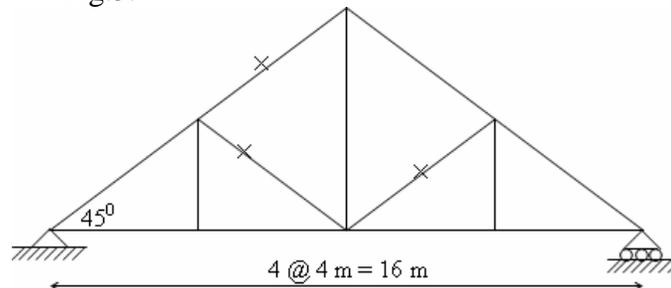

Fig.3
3. Draw influence diagrams for the forces in the marked members (X) of the plane truss shown in Fig.3. [16]